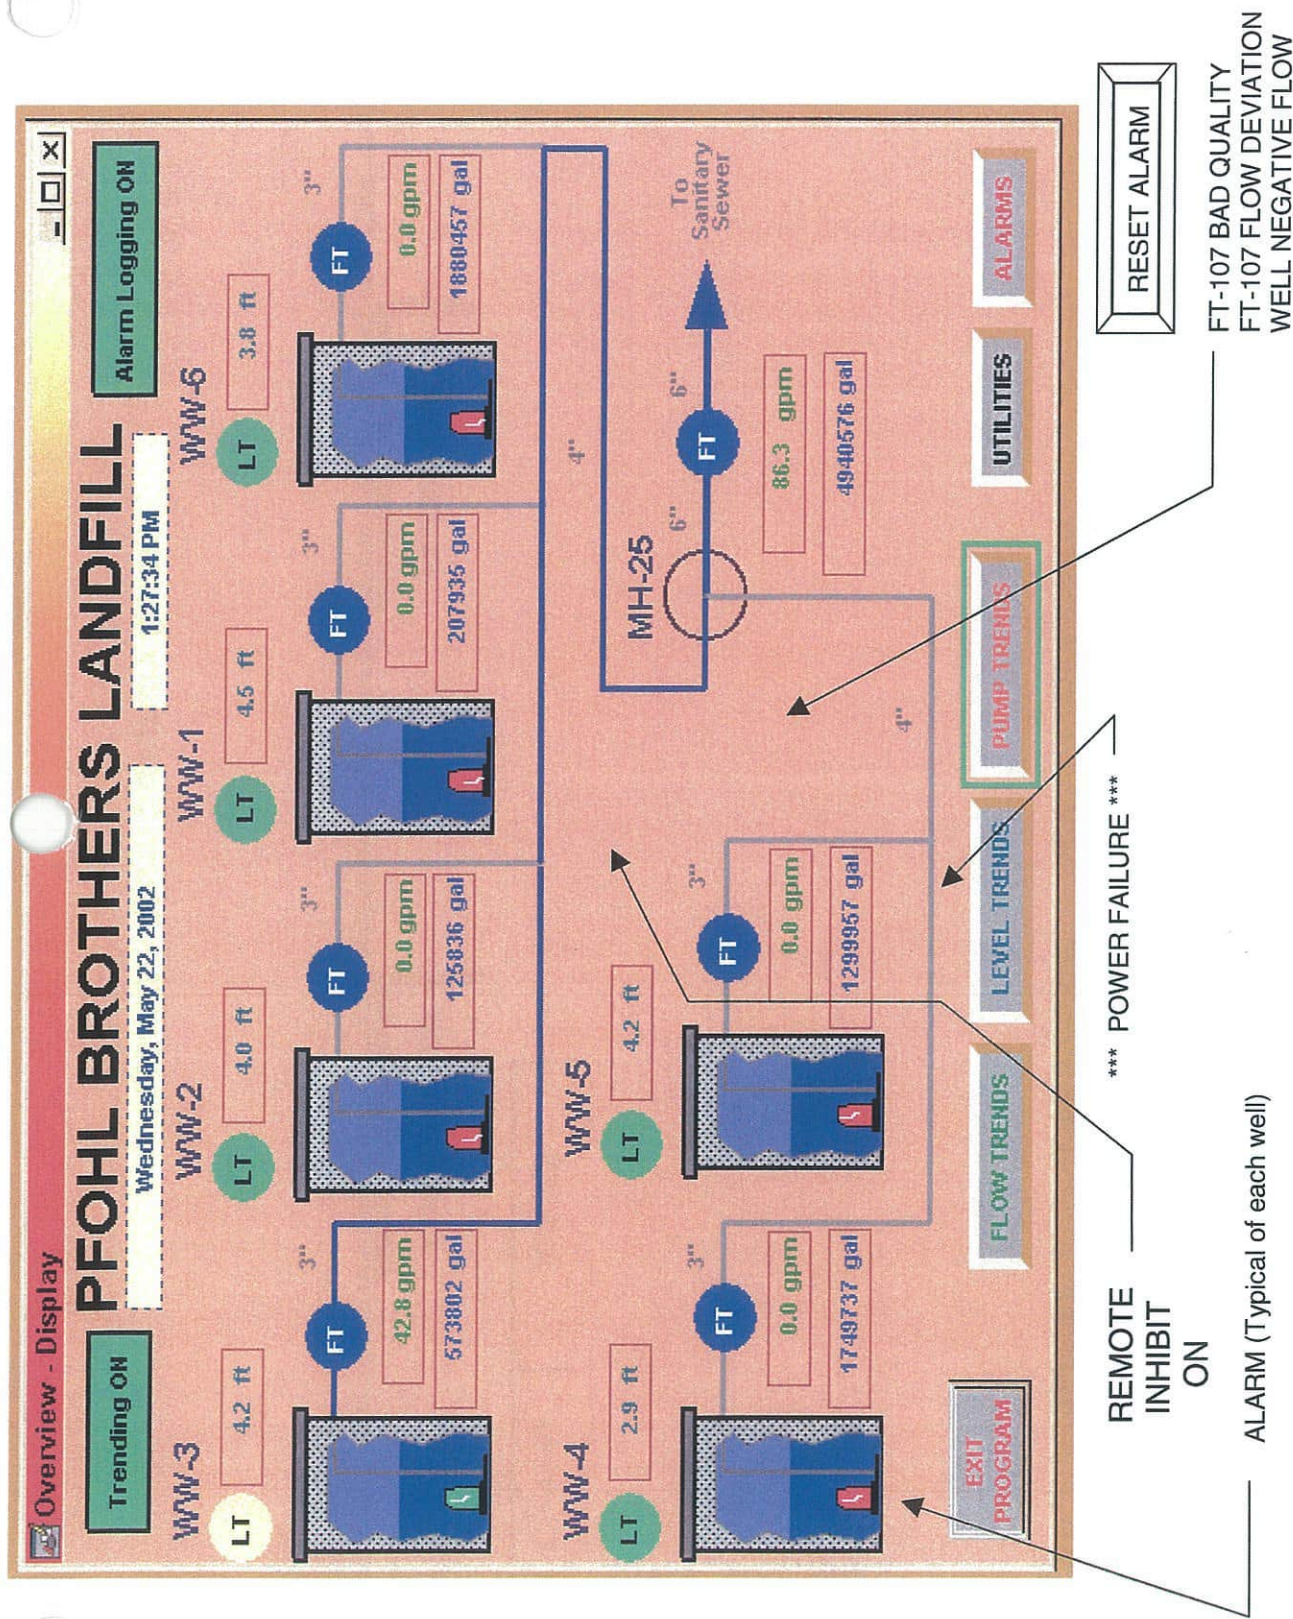

Figure 1 - Overview Screen (Showing hidden alarm text and pushbutton)
- From the Main screen (Figure 1) touch the **UTILITIES** button.
- From the Main screen (Figure 1) touch the icon for the well you wish to start or stop.
- From the Main screen (Figure 1) touch the **PUMP TRENDS** button.
- From the Main screen (Figure 1) touch the **LEVEL TRENDS** button.
- From the Main screen (Figure 1) touch the **FLOW TRENDS** button.
OPERATING SCREENS FIG. 1-FIG. 10